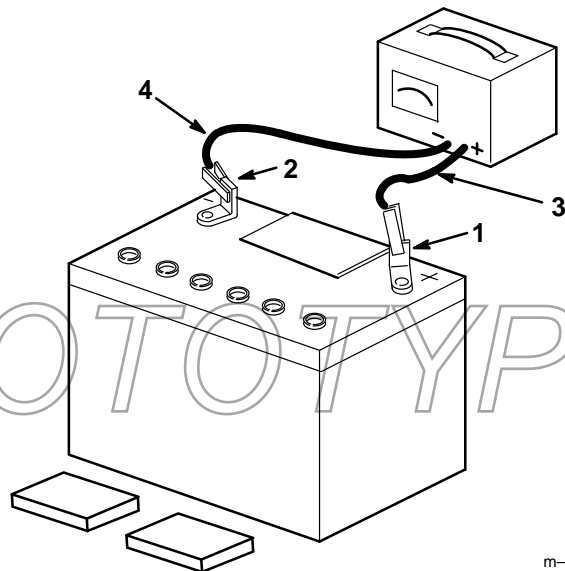

Figure 6
6. Leave the covers off and connect a 3 to 4 amp battery charger to the battery posts (Fig. 6). Charge the battery at a rate of 4 amperes or less for 4 hours (12 volts).
7. When the battery is fully charged, disconnect the charger from the electrical outlet then from the negative and positive battery posts (Fig. 6).